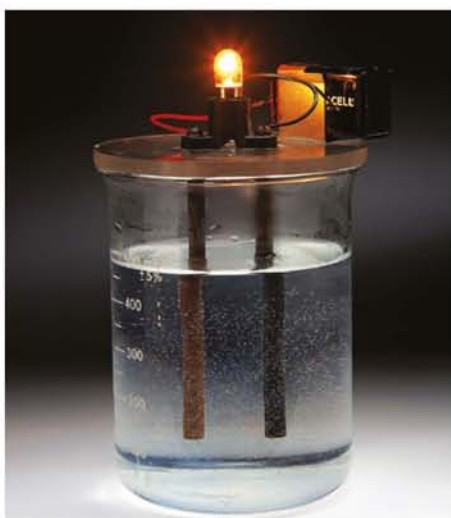

FIGURE 18.1.11 A simple circuit for detecting salinity. The brighter the light emitted from the globe, the greater the conductivity of the solution.
One of the most common methods for testing salinity levels of water samples is to measure the **electrical conductivity (EC)** of the sample. Electrical conductivity is the degree to which a specified material conducts electricity. If two electrodes in a circuit containing a light globe and a battery are placed into a water sample, as shown in Figure 18.1.11, the intensity of the light emitted from the globe will provide an indication of the salinity level.